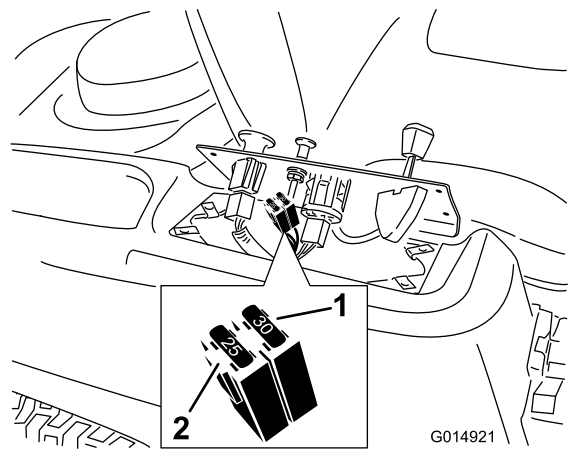

Figure 48
2. Lift the control pane up to access the main wiring harness and fuse block (Figure 48).
3. To replace a fuse, pull out on the fuse to remove it (Figure 48).